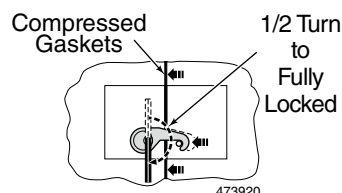

Figure 4. Locked Position
3. Check that the panels are still tight and properly aligned, then turn the cam lock 1/2 turn to the fully locked position. This will draw the panels tightly together. Install cam hole covers. See *Figure 4*.